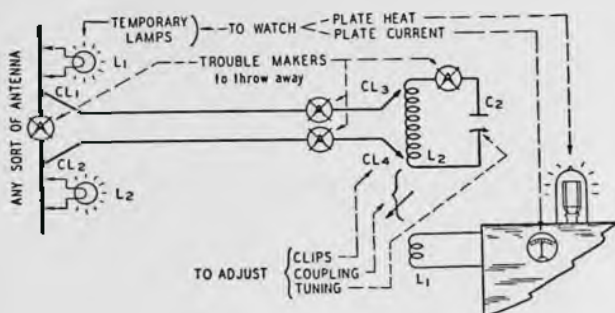

Fig. 3. Method of adjustment.
- 2—The "X" distance (antenna center to point of line attachment) is $1/7$ of the total antenna length or $2/7$ of the half-length. The last line spreader should be twice this distance from the antenna—spread line from there. Use circuit of Fig. 3—also procedure shown there.
- 3—For a 1-wire feeder—just omit a wire and ground the other clip on L2, Fig. 3.